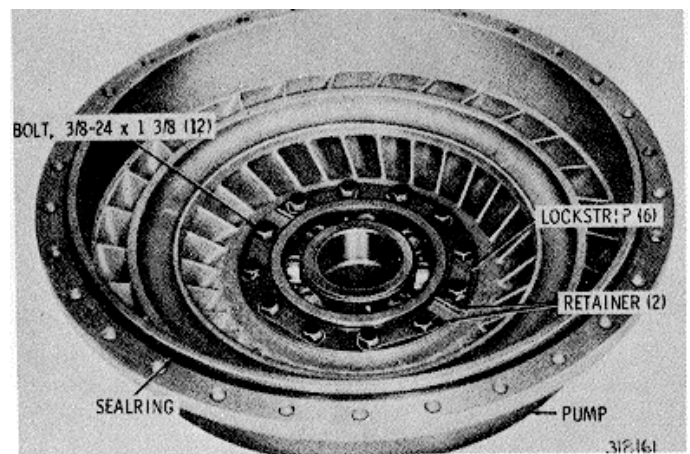

Fig. 6-12. Torque converter pump components.
(1) Flatten the corners of the lockstrips, and remove twelve bolts from the converter pump (fig. 6-12).
(2) Remove the bearing retainers. Remove pump hub 27 (B, foldout 7), pump hub gasket 26, and sealring 28 from hub 27.
(4) If necessary for parts replacement, remove bearing 25 or 31. Remove sealring 20 from the converter pump.
(5) Replacement of any converter balance weights 23, requires re-balancing of the converter pump.
(1) If bearing 25 was removed, install a new bearing, ungrooved end first, into pump hub 27. Install gasket 26.
(2) Install a 3/8-24 headless guide bolt into converter pump hub 27 or gear 32. Install sealring 20 onto the outside diameter of converter pump assembly 21.
(3) Install converter pump hub 27 onto the converter pump. Remove the guide bolt. Install two bearing retainers 19 and retain them with twelve 3/8-24 x 1 1/4-inch bolts (pump hub 27) and six new lockstrips. Tighten the bolts to 33 to 40 pound feet (45 to 54 Nm) torque. Bend one lockstrip corner against each bolt head (fig. 6-12).